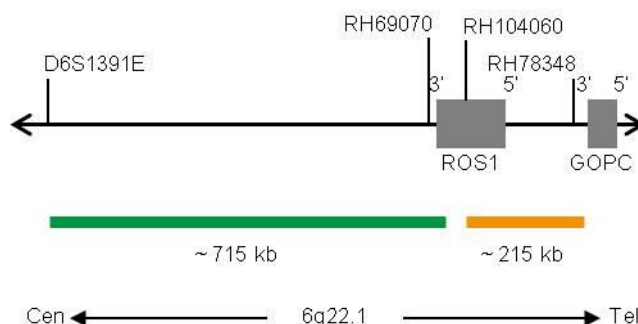

Fig. 1: ROS1 Probe map (not to scale)
- ZyGreen (excitation 503 nm/emission 528 nm) labeled polynucleotides (~6.0 ng/μl), which target sequences mapping in 6q22.1* (chr6:116,912,298-117,627,255) proximal to the ROS1 breakpoint region (see Fig. 1).
- ZyOrange (excitation 547 nm/emission 572 nm) labeled polynucleotides (~2.5 ng/μl), which target sequences mapping in 6q22.1* (chr6:117,659,135-117,871,701) distal to the ROS1 breakpoint region (see Fig. 1).